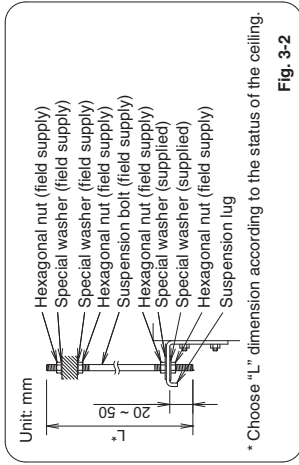

Fig. 3-2
- (3) Suspend and fix the indoor unit using the 2 hexagonal nuts (field supply) and special washers (supplied with the unit) as shown in Fig. 3-2.